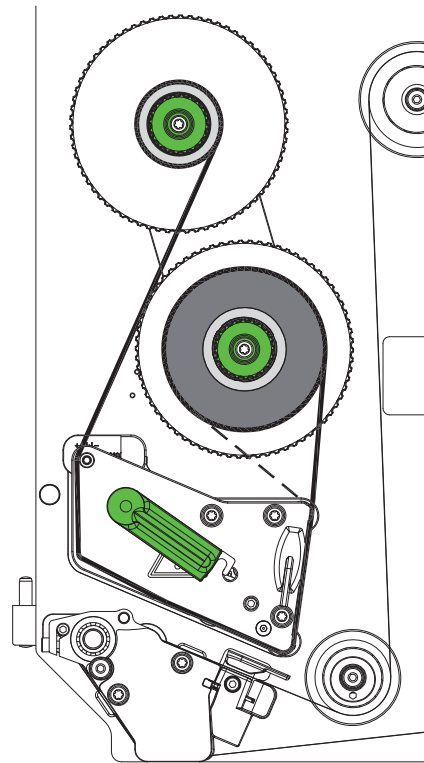

Figure 18 Transfer ribbon feed path
2. Turn lever (6) counterclockwise to open the printhead.
3. Slide transfer ribbon roll (3) onto the ribbon supply hub (4) until it stops and so that the color coating of the ribbon faces away from the printhead after loading.
4. Hold ribbon supply hub (4) firmly and turn knob (5) counterclockwise until the transfer ribbon roll is secured.
5. Slide suitable ribbon core (1) onto the transfer ribbon take-up hub (2) and secure it in the same way.
6. Guide transfer ribbon through the print unit as shown in Figure 18.
7. Secure starting end of transfer ribbon to the transfer ribbon core (1) with adhesive tape. Ensure counterclockwise rotation direction of the transfer ribbon take-up hub here.
8. Turn transfer ribbon take-up hub (2) counterclockwise to smooth out the feed path of the transfer ribbon.
9. Turn lever (6) clockwise to close the printhead.